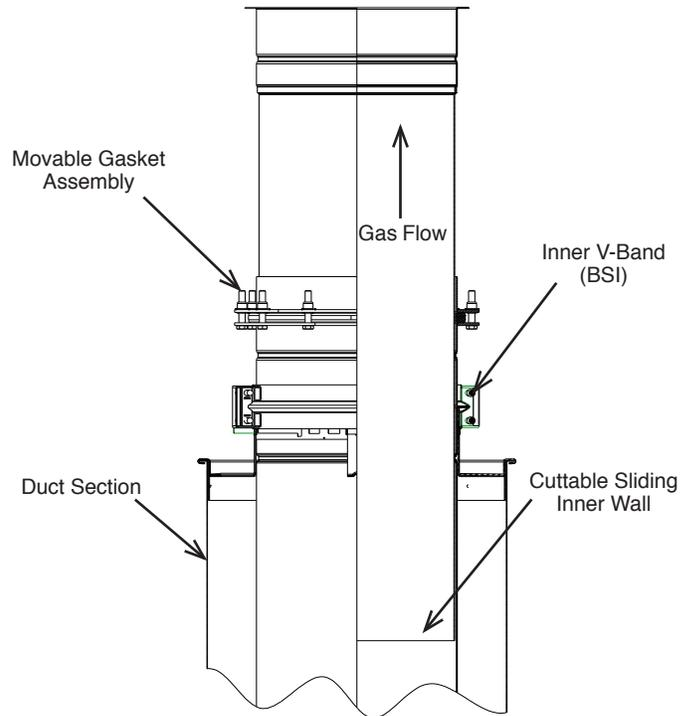

Figure 18 - Installation of Adjustable Length Steps 1 & 2
2. Secure the double flanged part of gasket collar assembly to the inlet end section with the inner V-band (BSI). See **Figure 18**.